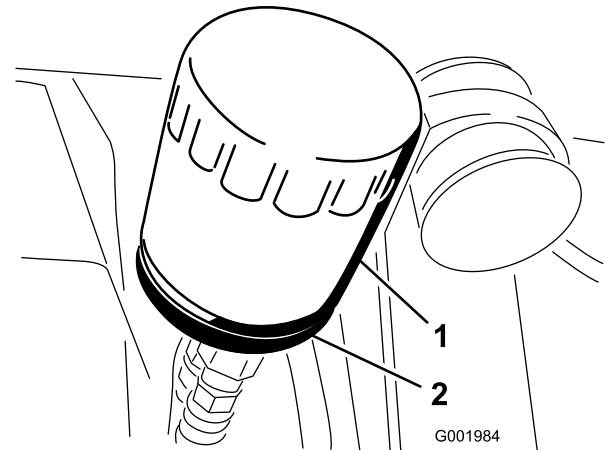

Figure 47
- Remove the oil filter (Figure 47).
- Install the replacement oil filter to the filter adapter. Turn the oil filter clockwise until the rubber gasket contacts the filter adapter, then tighten the filter an additional 1/2 turn (Figure 47).